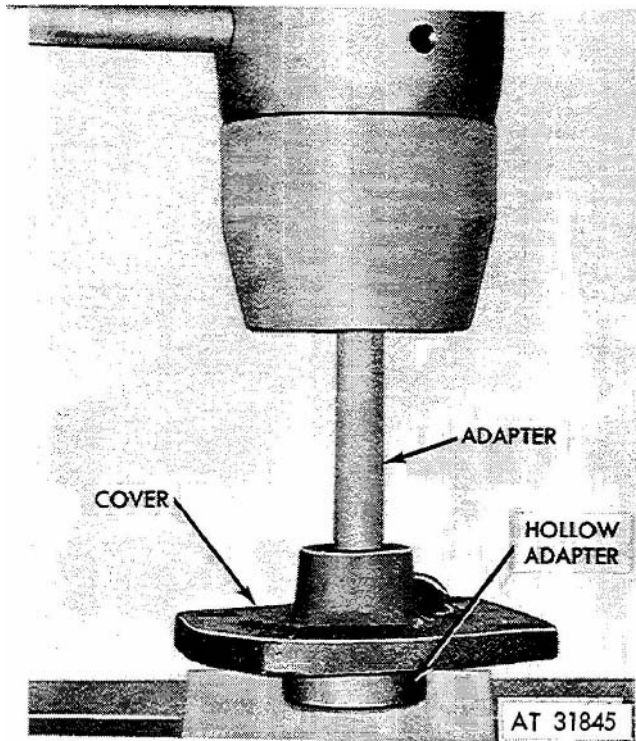

Figure 3-49. Pressing bushing from speedometer cover.
(15) Separate speedometer gear cover (7, fig 3-47) and gasket (8) from speedometer housing (50) and remove cover fitting (5). Press bushing (13) from cover (fig 3-49).